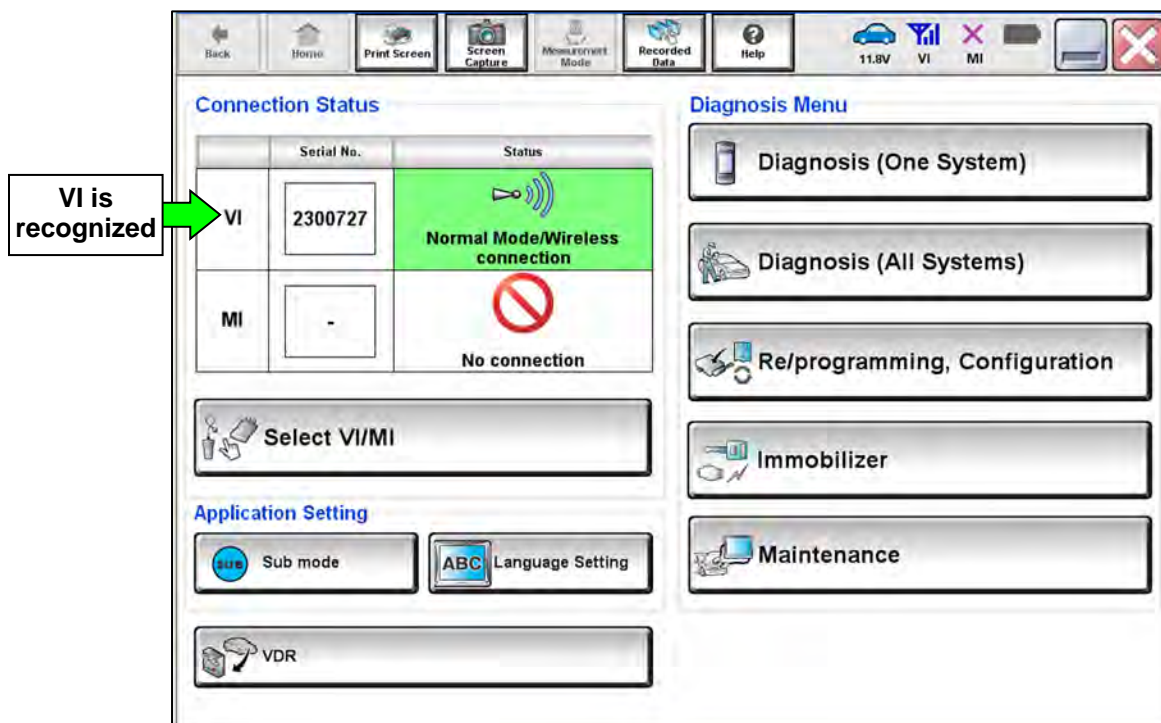

Figure 1
- Wait for the VI to be recognized (Figure 1).